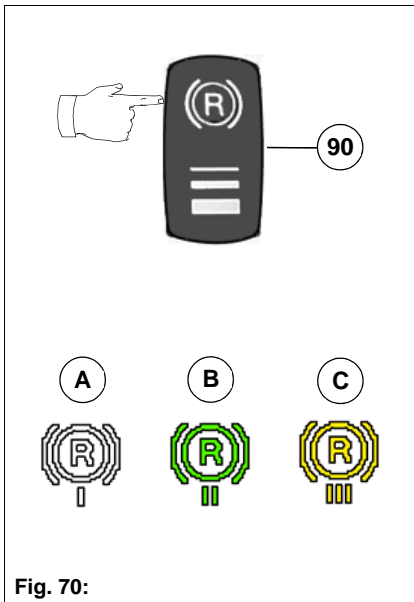

Fig. 70:
- Stage I: Symbol **Fig. 70-A**
- Stage II: Symbol **Fig. 70-B**
- Stage III: Symbol **Fig. 70-C**